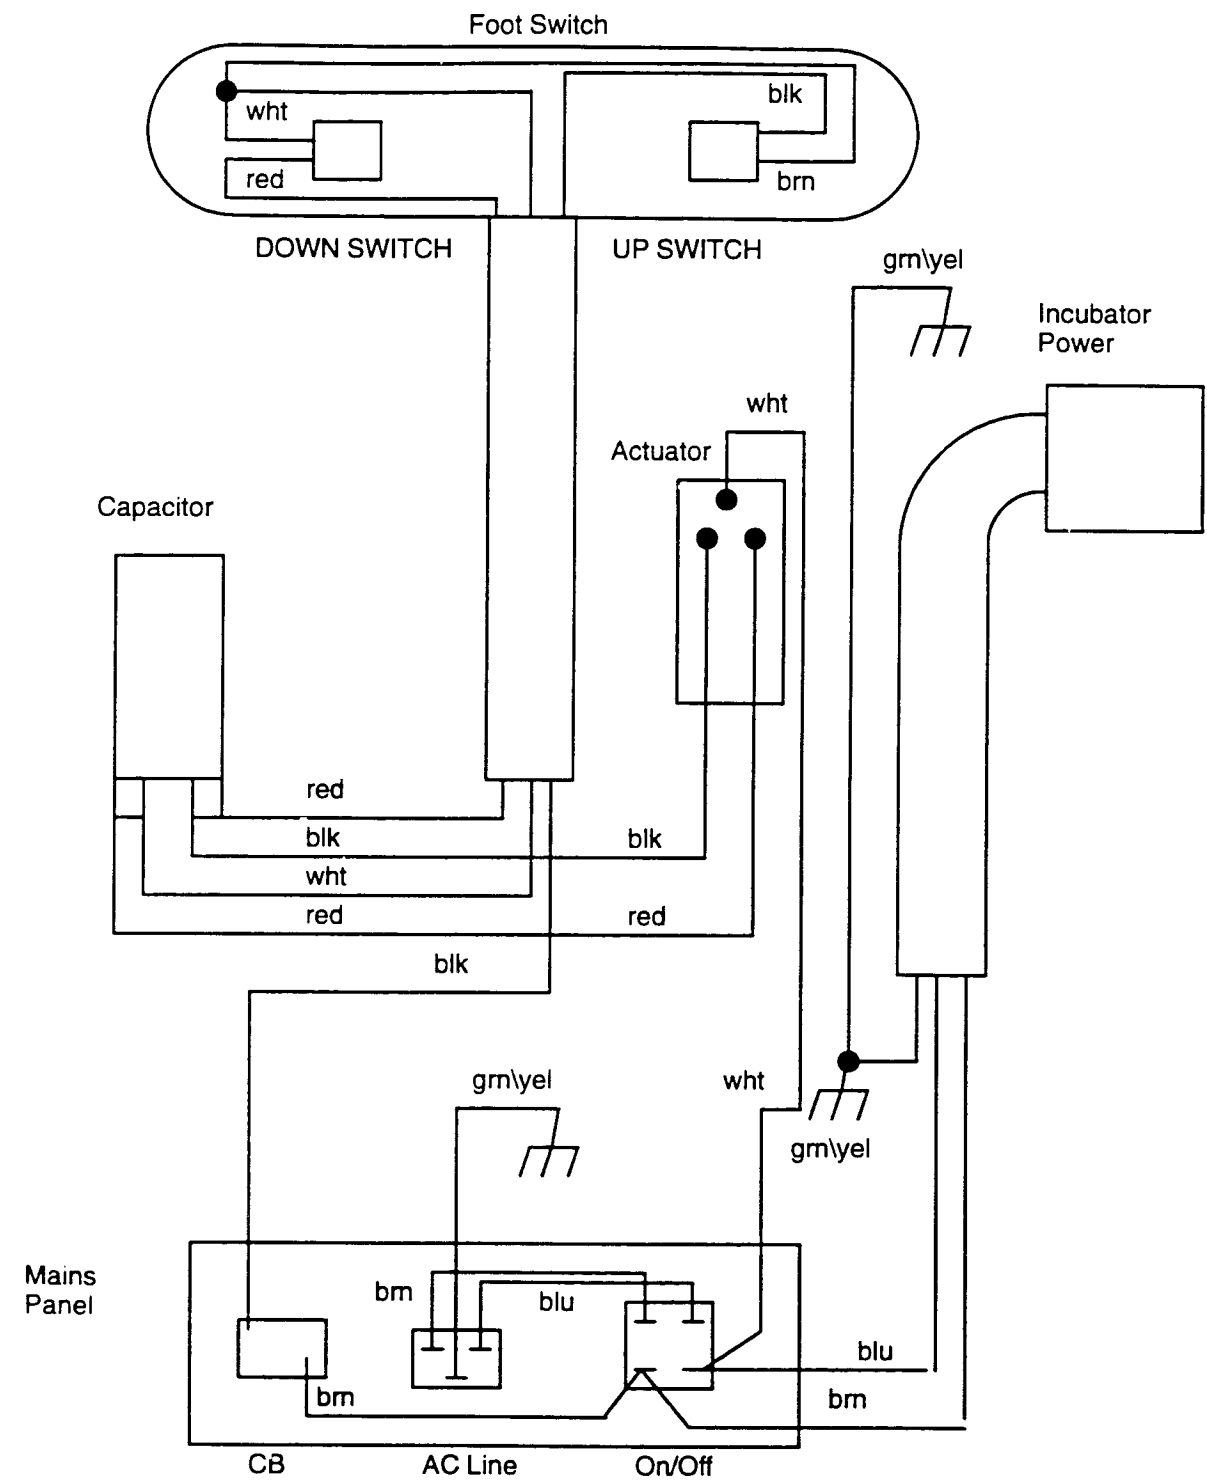
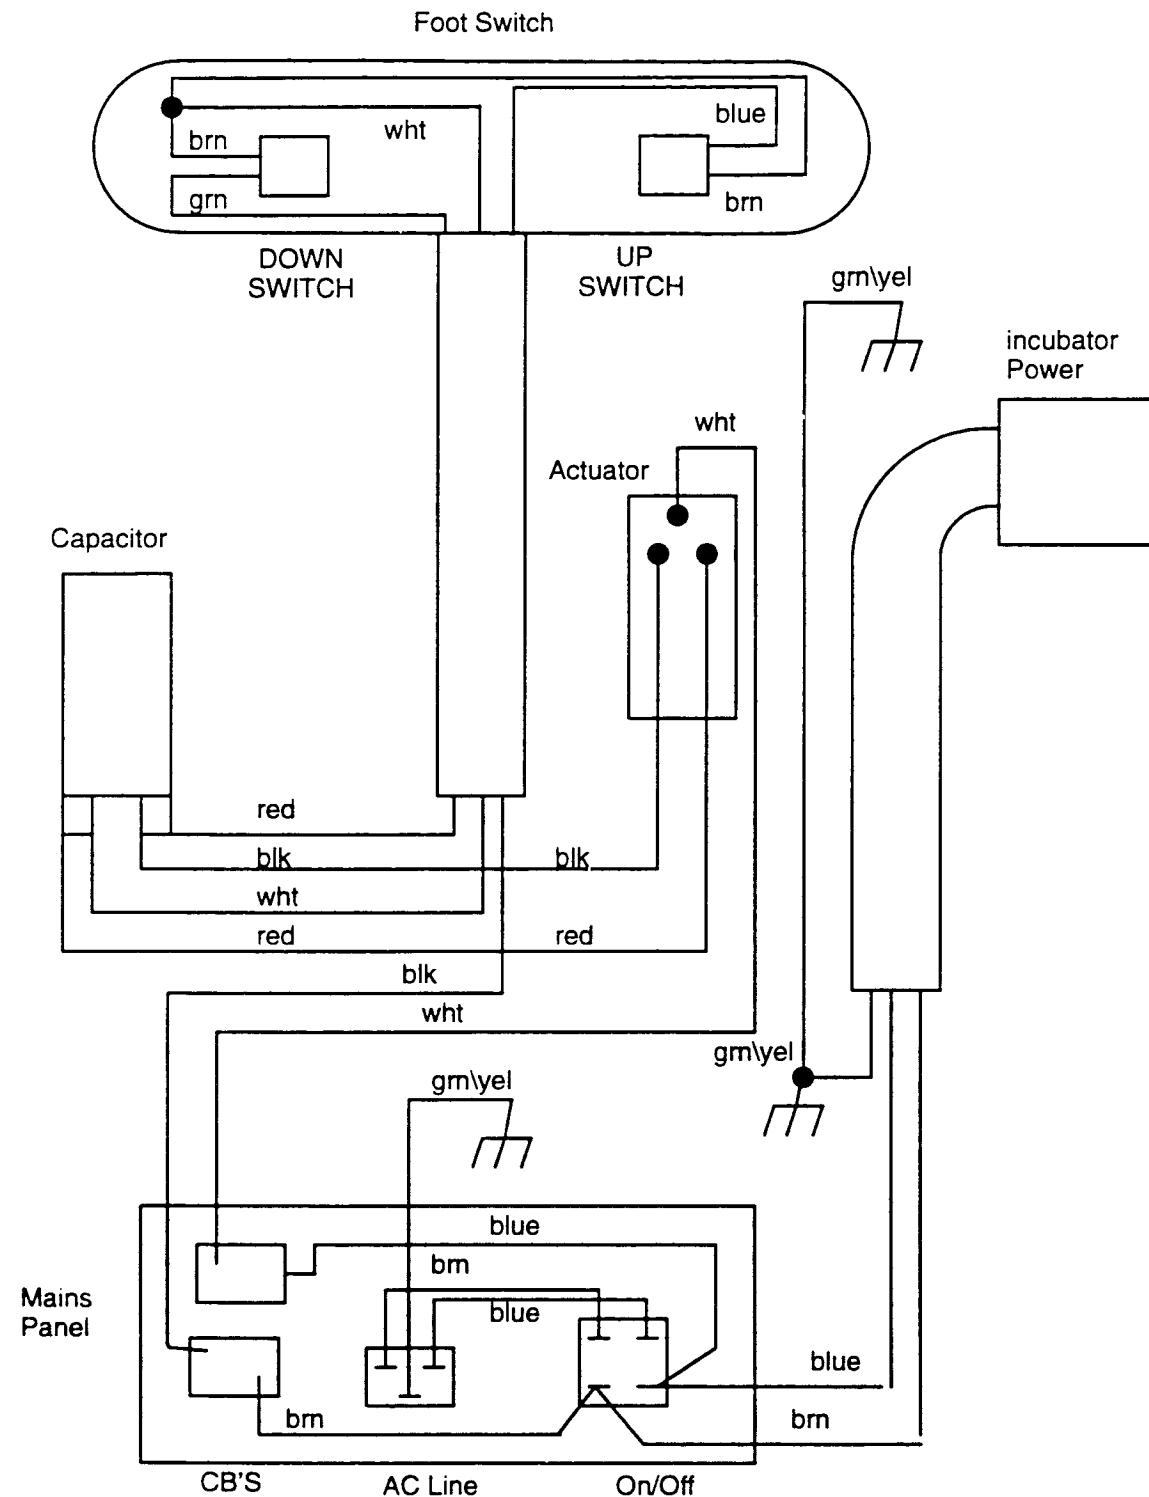

FIGURE 5.4 VHA STAND WIRING DIAGRAM—120V UNITS
FIGURE 5.5 VHA STAND WIRING DIAGRAM—220/240V UNITS
5. Remove the Ground Lug and Cable Clamp (36) at the top of the post by removing the nuts (49).
6. Remove the Mains Panel (8). Disconnect the White Wire from the MAIN POWER Switch (refer to Figure 5.4 for 120V Units or Figure 5.5 for 220V/240V Units).
7. Disconnect the Blue Wire and Brown Wires of the Incubator Power Cord from the MAIN POWER Switch (refer to Figure 5.4 for 120V Units or Figure 5.5 for 220/240V Units).
2. Remove the Red and White wires from the Capacitor. Remove the Black wire coming from the Up/Down Switch wiring harness from Circuit Breaker on the Mains Panel (refer to Figure 5.4 for 120V Units or Figure 5.5 for 220V/240V Units).
3. Remove the four nuts (49) that hold the Switch Assembly to the Stand. Remove the Switch Assembly and wiring harness from the Stand.
2. Remove the two Red, one Blue and one Black wires from the capacitor (refer to Figure 5.4 for 120V Units or Figure 5.5 for 220V/240V Units).
3. Remove the nuts (49) and strap (7) holding the Capacitor (4) in place.